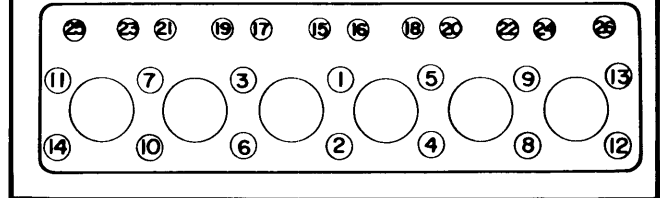

Fig. 2 Cylinder Head Bolt Tightening Sequence
2) Place cylinder head on block. Coat both main and sub-cylinder head bolts with engine oil. Tighten bolts in sequence shown in Fig. 2 in two steps. In first step, tighten main bolts to 43 ft. lbs. (6 kgm) and sub-bolts to 22 ft. lbs. (3 kgm). In second and final step tighten main bolts to 94 ft. lbs. (13 kgm) and sub-bolts to 36 ft. lbs. (5 kgm).